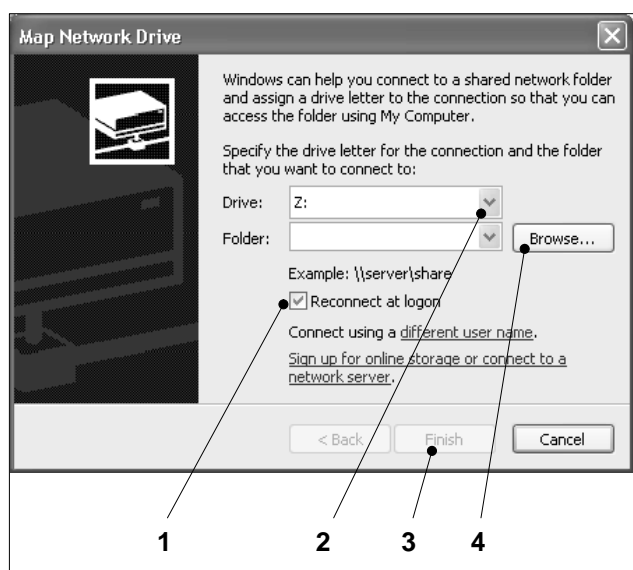

Fig. 8 Map Network Drive dialog box
The dialog box shown in Fig. 8 opens.
3. Select a drive identification letter for the connection from the *Drive* list box. Click on the arrow key for this purpose (Fig. 8/2) and select a letter from the list.
4. Then click on *Browse* (Fig. 8/4). Now select the folder (or the directory or computer) you want to connect.
5. Activate the check box *Reconnect at logon* (Fig. 8/1). Now you don't have to reestablish the network connection after every start of Windows XP.
6. Finally click on *Finish* (Fig. 8/3).